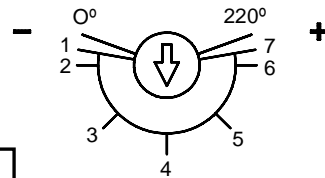

Fig. 23
- If desired you can control the amount of Chemical being dispensed by opening the right panel of the machine. Locate the detergent dispenser and regulate according to the flow chart (Fig. 23).